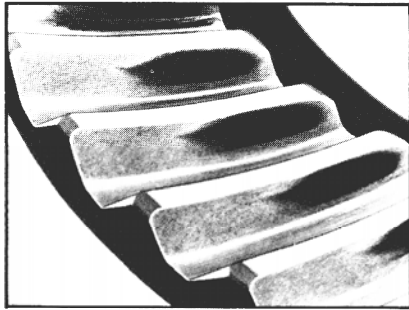

Figure 115A
4. Look at the contact patterns on the ring gear teeth. Compare the patterns to Figures 115A or B, 116A or B and 117A or B.
New Conventional and Generoid Gear Sets - toward the toe of the gear tooth and in the center between the top and bottom of the tooth. See **Figures 115A and 115B.**